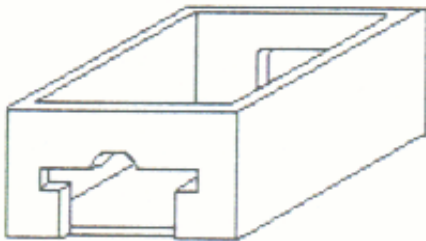

Figure 2.1: Proposed injection mold designs
- b) In an effort to become more competitive a large automotive company has decided to expand its design for manufacturing group. Assume that you have applied for a position with that group. As part of the interview process you have been shown the proposed design of an injection molded part similar to the part shown in Figure 2.1. What suggestions would you make in order to reduce the cost to mold the part? [10]